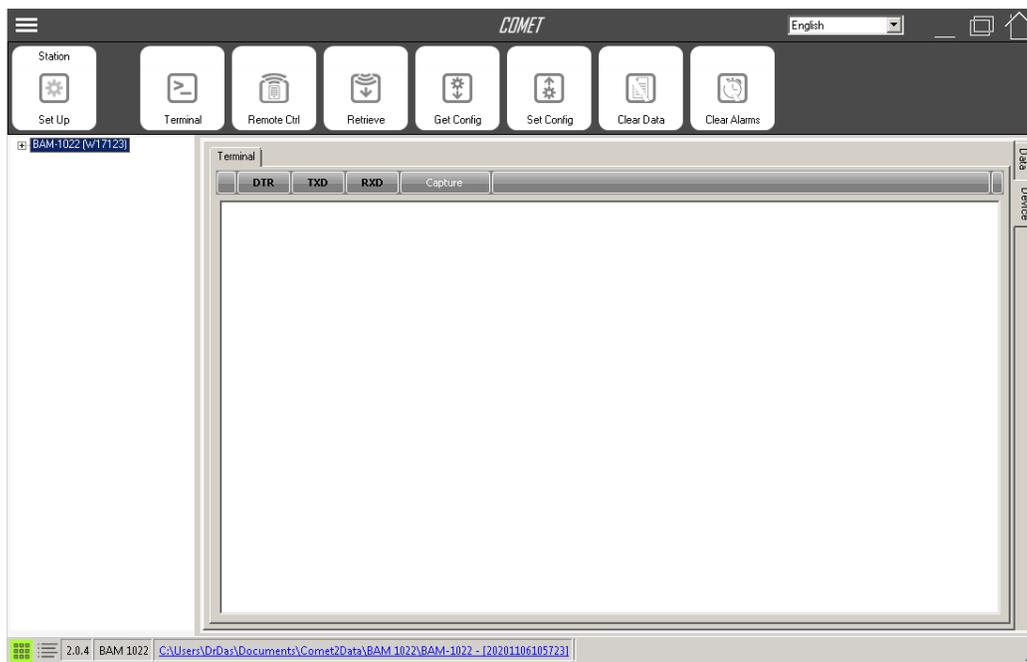

Figure 9-2: Comet user interface
- b) Verify successful download by checking the file path displayed at the bottom of the screen (Figure 9-2).